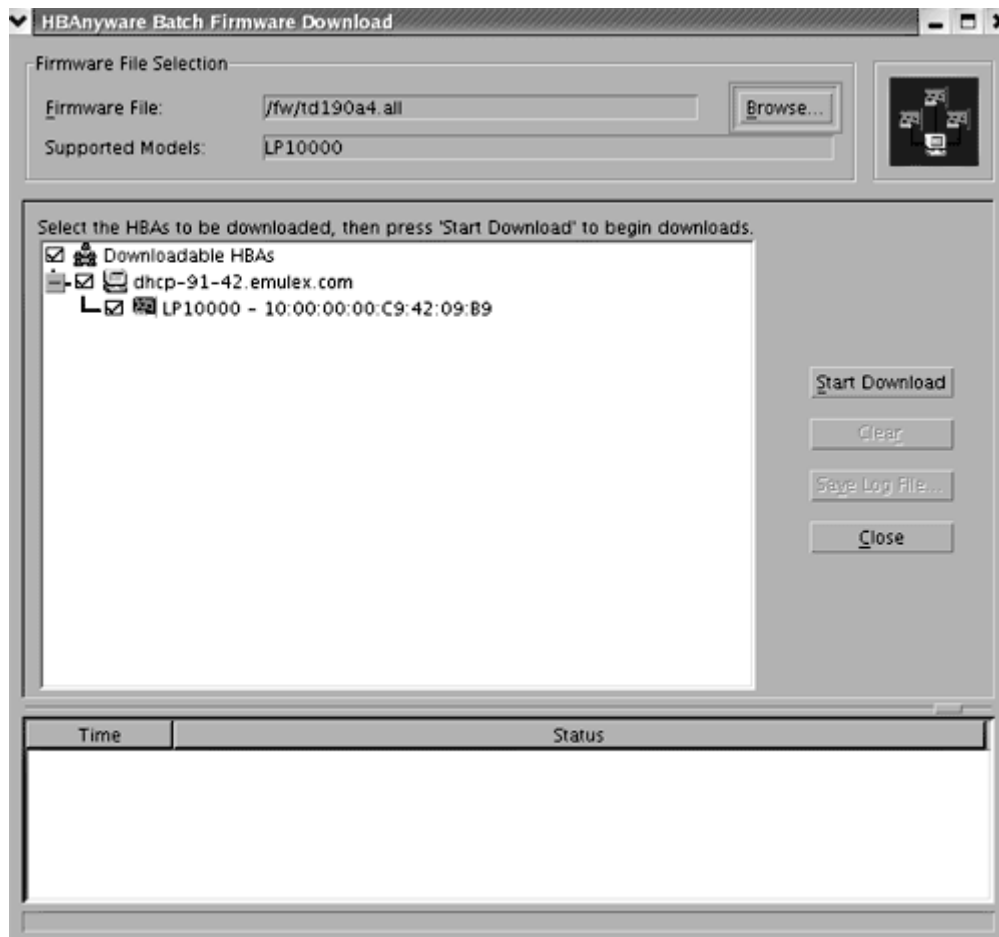

Figure 24: The HBAAnyware Batch Firmware Download dialog box
- Click the check box next to an HBA or host to select or remove that HBA from the batch process. (Figure 24)